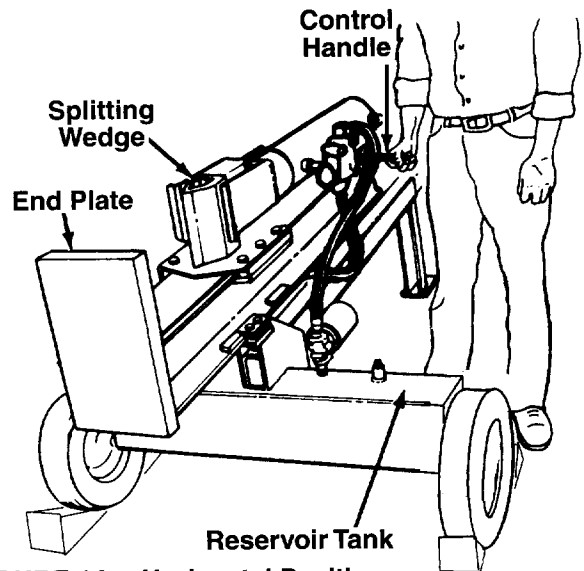

FIGURE 14.—Horizontal Position
**Horizontal:** Stand behind the reservoir tank. Operate the control handle with your right hand and stabilize the log, if necessary, with your left hand. See figure 14.